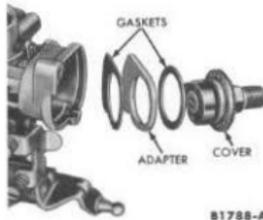

FIG. 21—Automatic Choke Cover and Adapter
5. Remove the automatic choke cover retaining screws. Remove the cover and gasket and the adapter plate and gasket (Fig. 21).